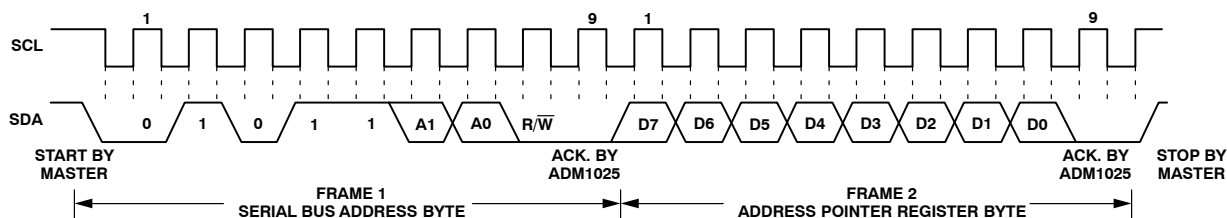

Figure 11. Writing to the Address Pointer Register Only
1. If the ADM1025/ADM1025A's Address Pointer Register value is unknown or not the desired value, it is first necessary to set it to the correct value before data can be read from the desired data register. This is done by performing a write to the ADM1025/ADM1025A as before, but only the data byte containing the register address is sent, since data should not be written to the register. This is shown in Figure 11.
2. If the Address Pointer Register is known to be already at the desired address, data can be read from the corresponding data register without first writing to the Address Pointer Register, so Figure 11 can be omitted.